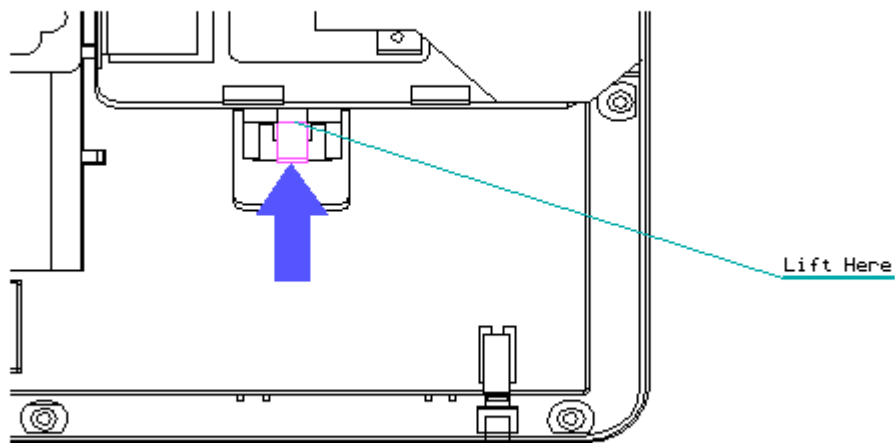

Figure 3-27. Releasing the Battery Latch
4. Working from the inside of the back cover, gently lift the tab that holds the battery latch in place (Figure 3-27). The latch spring should provide enough force to push the latch out from under the tab.